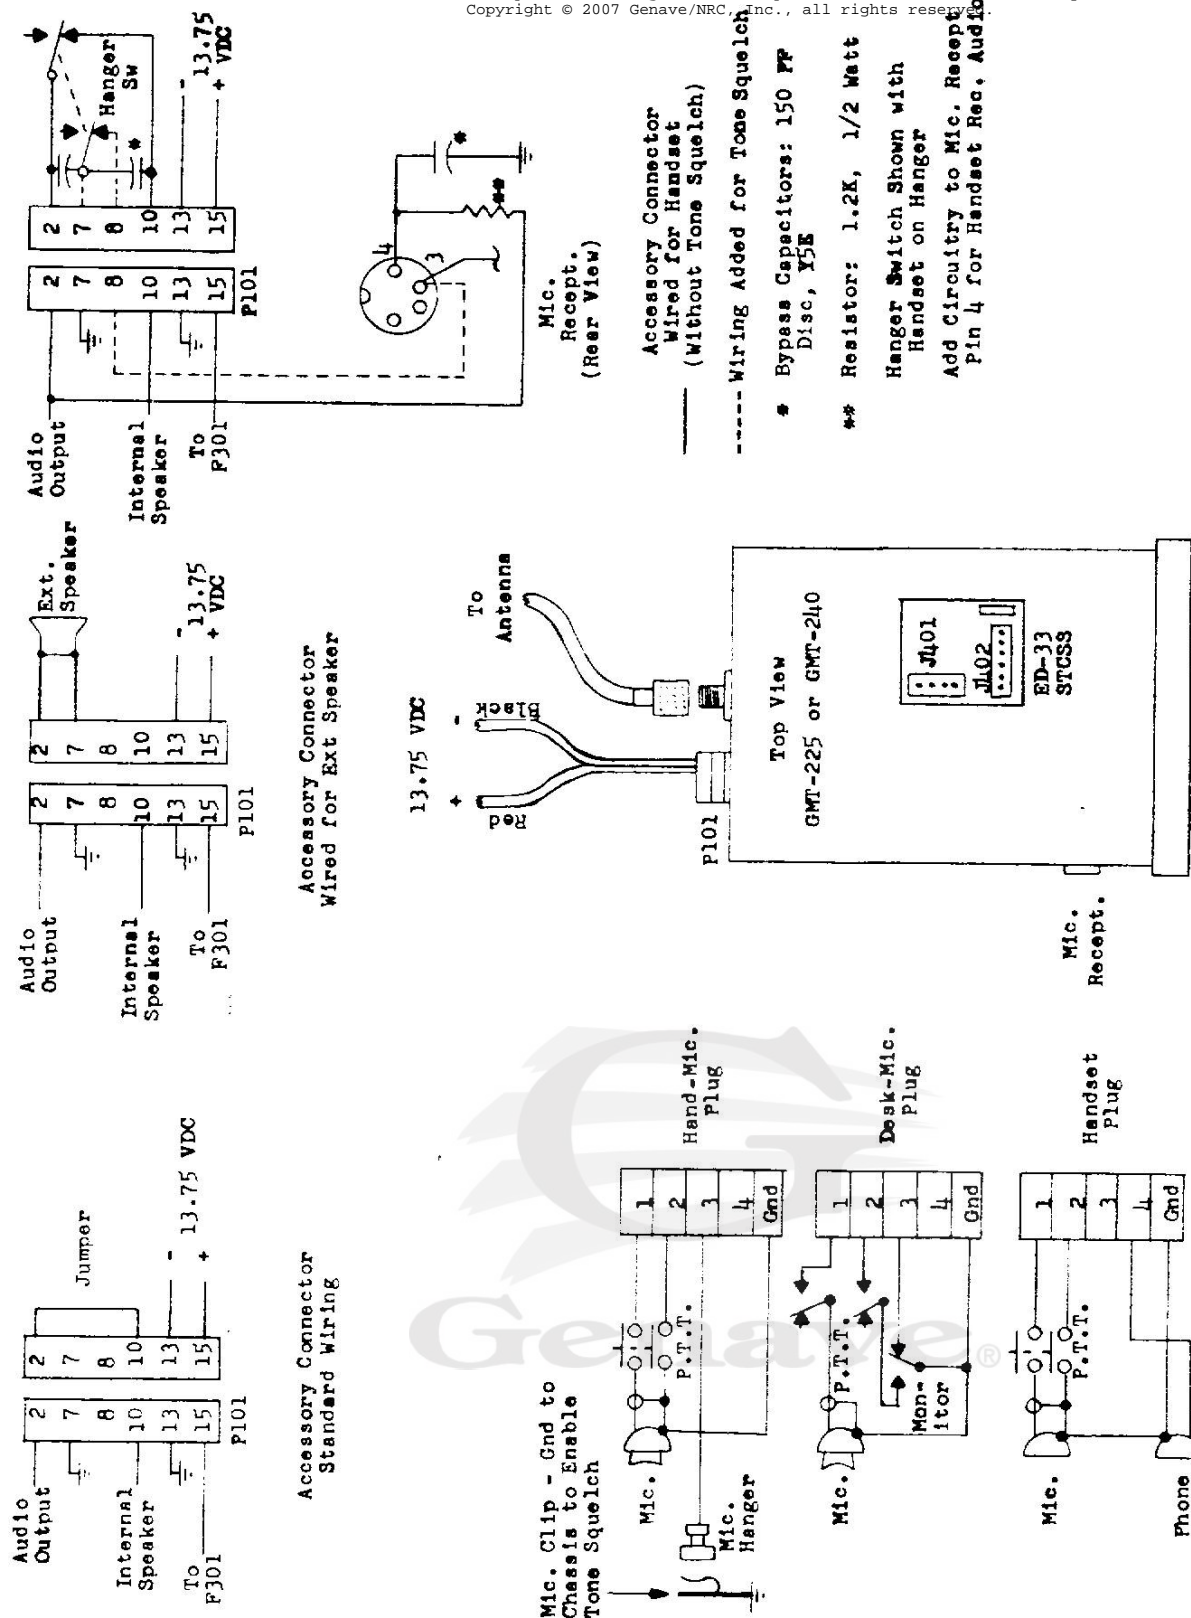

Figure 2-5. Accessory Connector & Mic. Wiring
A Genave telephone-type handset can be connected to the microphone receptacle; however, if transceiver audio is to be cut-off from the speaker during two-way communications, or if the ED-33 subaudible tone squelch is used, a handset hanger with internal switching is required. Recommended handset wiring changes are shown in Figure 2-5.
The 15-pin male plug mounted on rear panel of the GMT- transceiver is designated as the "Accessory Connector," and mates with a 15-pin female connector to provide a convenient method of connecting power or optional accessories to the unit. Standard wiring of the accessory connector utilizes five pins, leaving ten pins available for options or customized installation. Figure 2-5 illustrates standard wiring of the accessory connector, and the recommended connections for use with a handset-hanger switch. The connections to the accessory-connector pins are described below:
PIN 8 - No connection, normally; however, if a handset AND "subaudible tone squelch" are both used with the transceiver, pin 8 of the male plug should be connected to pin 3 of the microphone receptacle inside the transceiver to provide a "tone-squelch enable" wire. The handset hanger "tone-squelch enable" switch is then connected to pins 7 and 8 of the 15-pin female connector as shown in Figure 2-5. Therefore, pin 8 will be held at ground potential when the handset is in place on its hanger. Pin 8 will be ungrounded when the handset is removed from the hanger; thus, the tone squelch is disabled to allow monitoring of the operating frequency prior to starting transmission.
PIN 10 - Input connection to the internal 4-ohm speaker in the transceiver. This pin is normally jumpered to pin 2. See Figure 2-5.
The microphone receptacle is a 5-conductor jack (4 pins plus shell) mounted on the left-side panel of GMT-225 and GMT-240 transceivers. Internal connections are made to this receptacle so that standard Genave hand microphones, desk-style microphones, or telephone-type handsets can be used interchangeably. However, if a handset is to be used, receiver audio for the handset earphone should be connected to mic. receptacle pin 4 as described below (see Figure 2-5). The connections to the microphone receptacle pins are described below:
The method of grounding pin 3 is dependent upon type microphone being used: The hand microphone grounds this pin through the mic. hanger and mic. mounting clip; the desk-style microphone grounds pin 3 through contacts on the "monitor" switch; while the handset grounds pin 3 by means of switch contacts in the handset hanger. Refer to Figure 2-5.
**NOTE:** If a handset hanger and tone squelch are to be used with the transceiver, a wire must be connected between pin 8 of the rear-panel Accessory Plug and pin 3 of the mic. receptacle as shown in Figure 2-5.
**Pin 4 - No connection, normally; however, if a telephone-style handset is used, receiver audio should be connected to this pin as shown in Figure 2-5.** Provisions have been made on the printed-circuit board to mount the 1.2 K resistor - a copper track on the board extends from the resistor mounting pad to the receiver audio output. A wire must be connected from the other resistor mounting pad to pin 4 on the mic. receptacle, and a 150 PF disc capacitor should be connected from pin 4 to chassis ground, using short leads.
If the transceiver is equipped with the ED-33 Subaudible Tone Squelch option, the tone frequency will be listed on the tag attached to the unit, and also on a label affixed to the inside of the transceiver. The tone-squelch board is located at the right-center of the main PC board, as shown in Figure 2-5. If it should be necessary to readjust the tone frequency from the factory-set value, proceed as follows:
7. To transmit, depress the microphone "transmit" pushbutton. If unit is equipped with the "subaudible tone squelch system," it is important to monitor the channel before transmitting to insure that channel is not in use. The microphone circuitry is designed to be installed in such a manner that receiver squelching is deactivated when the microphone or handset is removed from its hanger (see Figure 2-5); while the G-11 desk-style microphone is designed so that the TRANSMIT button can not function unless the MONITOR switch is depressed first.